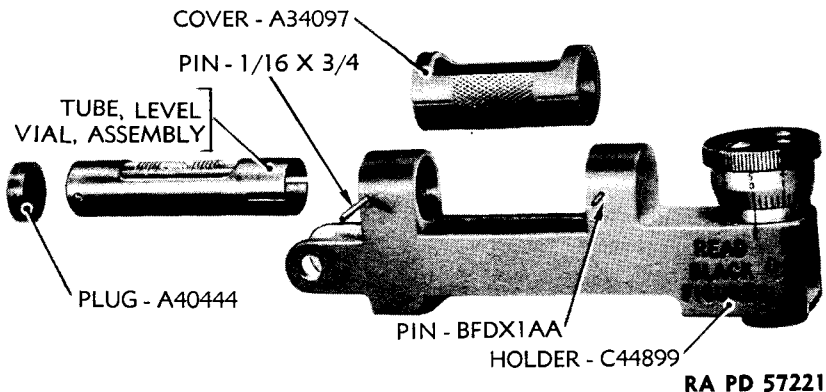
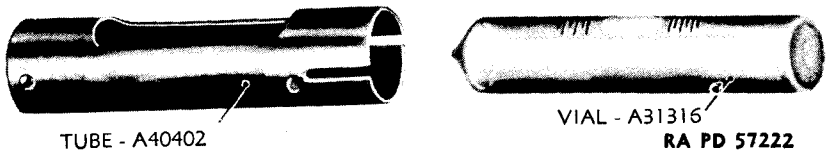
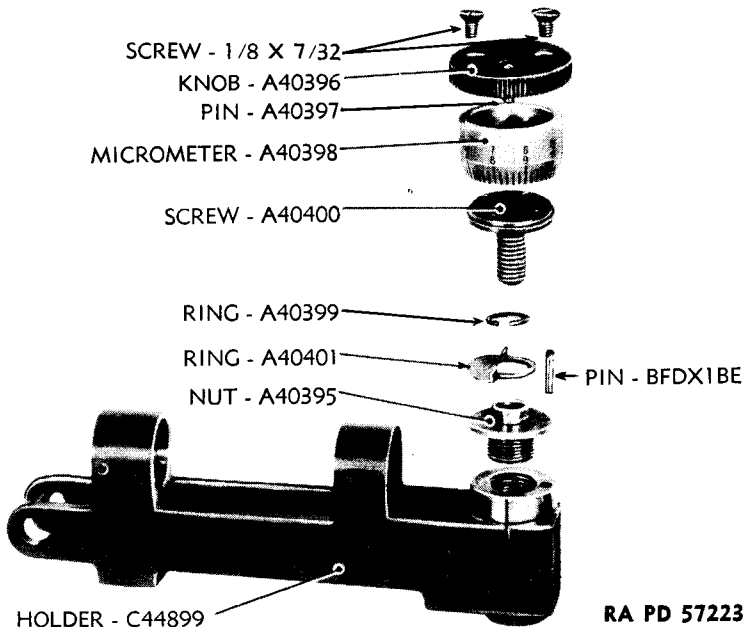

Figure 9—Gunner's Quadrant M1—Vial Tube Removed from Holder
Figure 10—Gunner's Quadrant M1—Level Vial Removed from Tube
Figure 11—Gunner's Quadrant M1—Micrometer Removed
(4) REMOVE LEVEL VIAL (fig. 9).
(e) Extreme care must be exercised in removing the level vial from the tube. The gypsum must be dug out very slowly and carefully. Avoid breaking the level vial tip off. Never cross the center of the gypsum; always dig around the edge nearest the tube. Use shim stock to dig out the remaining gypsum between the level vial and the tube. After all of the gypsum has been removed, push the level vial out of the tube (fig. 10).
(5) REMOVE MICROMETER GROUP (fig. 11).
c. **Install Micrometer Group** (fig. 11).
(1) Thread micrometer screw nut in position on level holder until the nut is tight and the pin holes are lined up.
(2) From the top of the level holder, drive pin BFDX1BE in position in lined up holes until $\frac{1}{16}$ inch extends from top of micrometer screw nut.
(3) Place micrometer stop ring with lips upward on micrometer screw nut, and lock in position with split ring.
(4) Apply one or two drops of OIL, lubricating, for aircraft instruments and machine guns, to the micrometer screw, and thread micrometer screw through micrometer screw nut until the black auxiliary index marks of the arm and holder are in line.
(5) Facing the black graduation side of the instrument, turn the stop ring so that the solid part of the ring is toward the black index and its lip hits the pin BFDX1BE.
(6) Select the hole on micrometer screw nearest the level vial, and turn micrometer screw (not more than one-eighth turn) until this hole and the hole directly opposite it are in a straight line with the level vial.
(7) Place micrometer A40398 and knob A40396 in position over micrometer screw A40400 so that pin A40397 in knob enters the hole nearest the level vial.
(8) Secure micrometer and knob in position with two screws. **NOTE:** Final adjustment of micrometer will be made after the gunner's quadrant is completely assembled.
d. **Install Level Vial** (fig. 9 and fig. 10).
(1) Thoroughly clean out level vial tube.
(2) Place level vial tube on flat leveled surface.
(3) Push level vial into position in level vial tube and shim with paper of desired thickness to secure level vial in leveled position.
(4) Set level vial in level vial tube with GYPSUM, calcined, Grade I, fine, mixed with water to form paste, and allow gypsum to dry.
(5) Hold level vial cover in position over level holder with the small projection on the inside of the cover toward the micrometer.